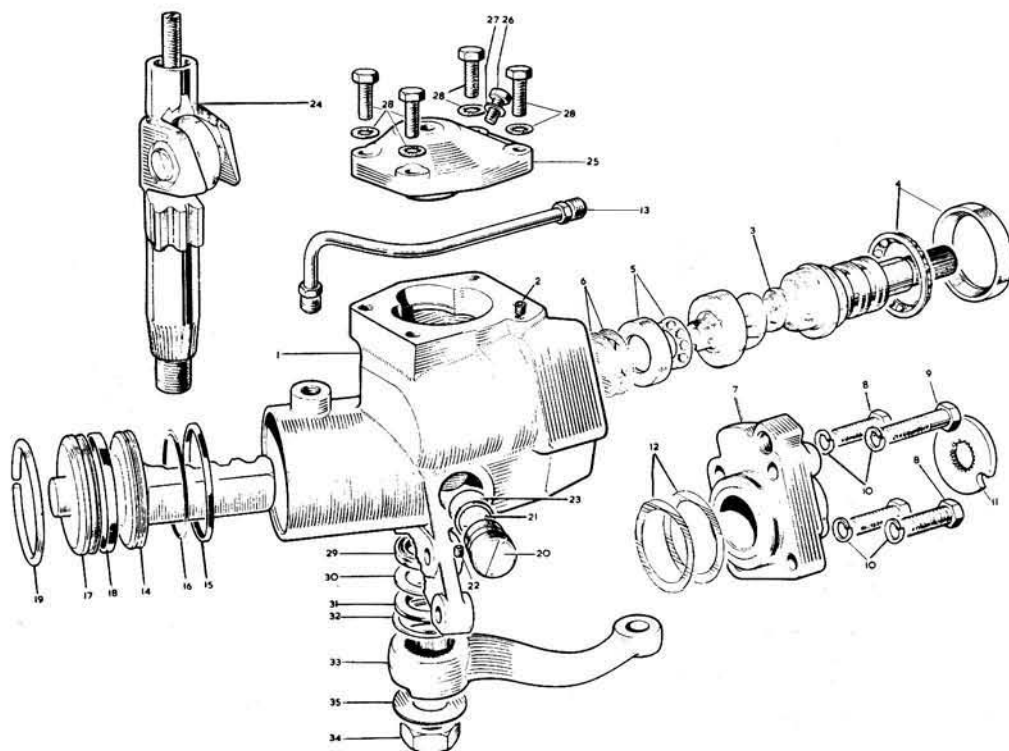

FIG.11.42. THE ADWEST POWER ASSISTED STEERING BOX
1 An exploded view of the Adwest steering box is given in Fig.11.42 to which reference should be made during the following operations.
- 6 On those cars fitted with a bleed screw (item 26 in Fig.11.42) slacken the screw whilst the engine is running and retighten securely when all air has been expelled. Turn the steering, with engine running, from lock to lock a few times and check for lumpiness.